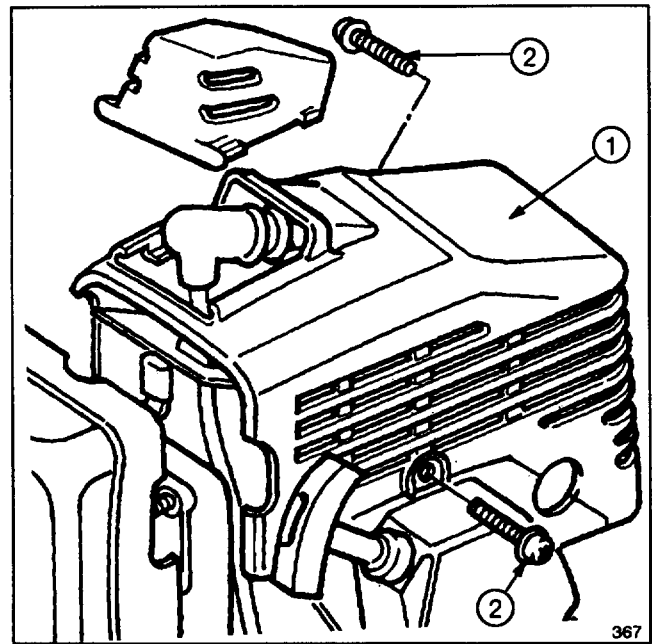

Figure 14
## SERVICING MUFFLER (Figs. 14 & 15)
1. Remove two (2) screws securing muffler cover to trimmer (Fig. 14).